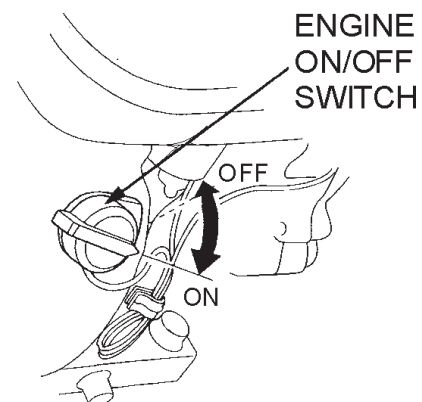

Figure 25. Engine ON/OFF Switch
5. Place the engine ON/OFF switch (Figure 25) in the **ON** position.
3. Place the Engine ON/OFF switch (Figure 25) in the **OFF** position.